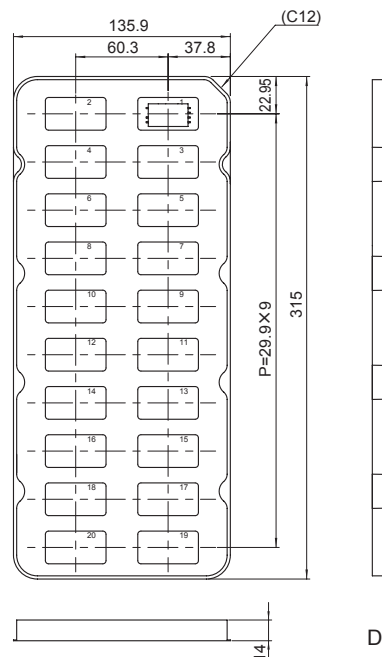

Fig.12.1 Delivery package information
■ These are packed in a tray. (Fig.12.1)